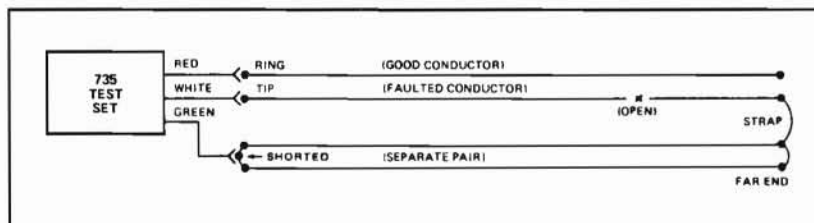

Figure 4-2.
- 3) Connect the 735 as shown in Figure 4-2. Set the TEST switch to LENGTH $\mu\text{F}/\text{MILE}$ and set the CONDUCTOR switch to the good conductor of the faulted pair; using the CAPACITANCE control, null the meter.